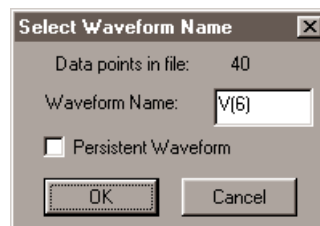

Figure 6.6. This dialog box indicates the number of data points in the file.
- 2 Select the appropriate waveform file from the File Selection dialog box and choose **Open** to display the dialog box shown in Figure 6.6.